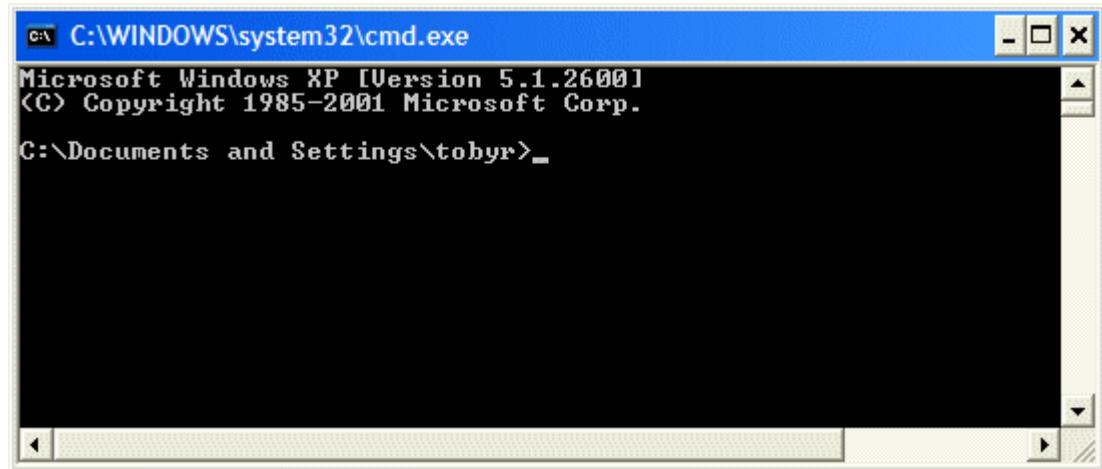

Figure 8-5. Launching a console (terminal) window.
- 2) Click the **OK** button or press the <Enter> key to execute this command, which will launch a *console window* (sometimes referred to as a *terminal*) as illustrated in Figure 8-5.